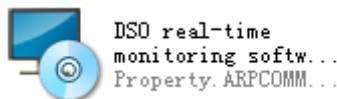

Fig.1-1
**Step 1:** Insert the CD provided with the oscilloscope into the CD-ROM of a computer that will read content of the CD. Find the software (Fig.1-1).
**Step 2:** Double left click the mouse to run the installer of the software as shown in Fig.1-1. An installation preparation interface of the software as shown in